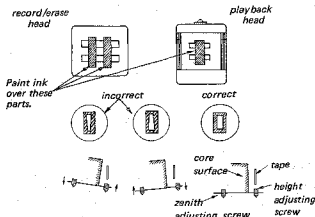

Fig. 3-24. Head zenith and height adjustment
3. Paint the head core with black ink as shown in Fig. 3-24.
4. After the ink dried, run the tape in the FWD direction for 20 to 30 seconds. Watch the ink on the core fading away. When the same wide amount of the faded away part cannot be obtained at every point, turn the zenith and height adjusting screws in the direction shown by the arrows. See Fig. 3-24.
3. Paint the record/erase head cores with ink as shown in Fig. 3-24.
4. After the ink dried, run the tape in the FWD direction for 20 to 30 seconds. Watch the ink on the core fading away. When the ink does not fade away in the same wide amount at every point, turn the zenith and height adjusting screws in the direction shown by the arrows. See Fig. 3-24. Repeat this step several times until the satisfied result is obtained. After adjustment clean the cores with a soft cloth dampened with denatured alcohol.